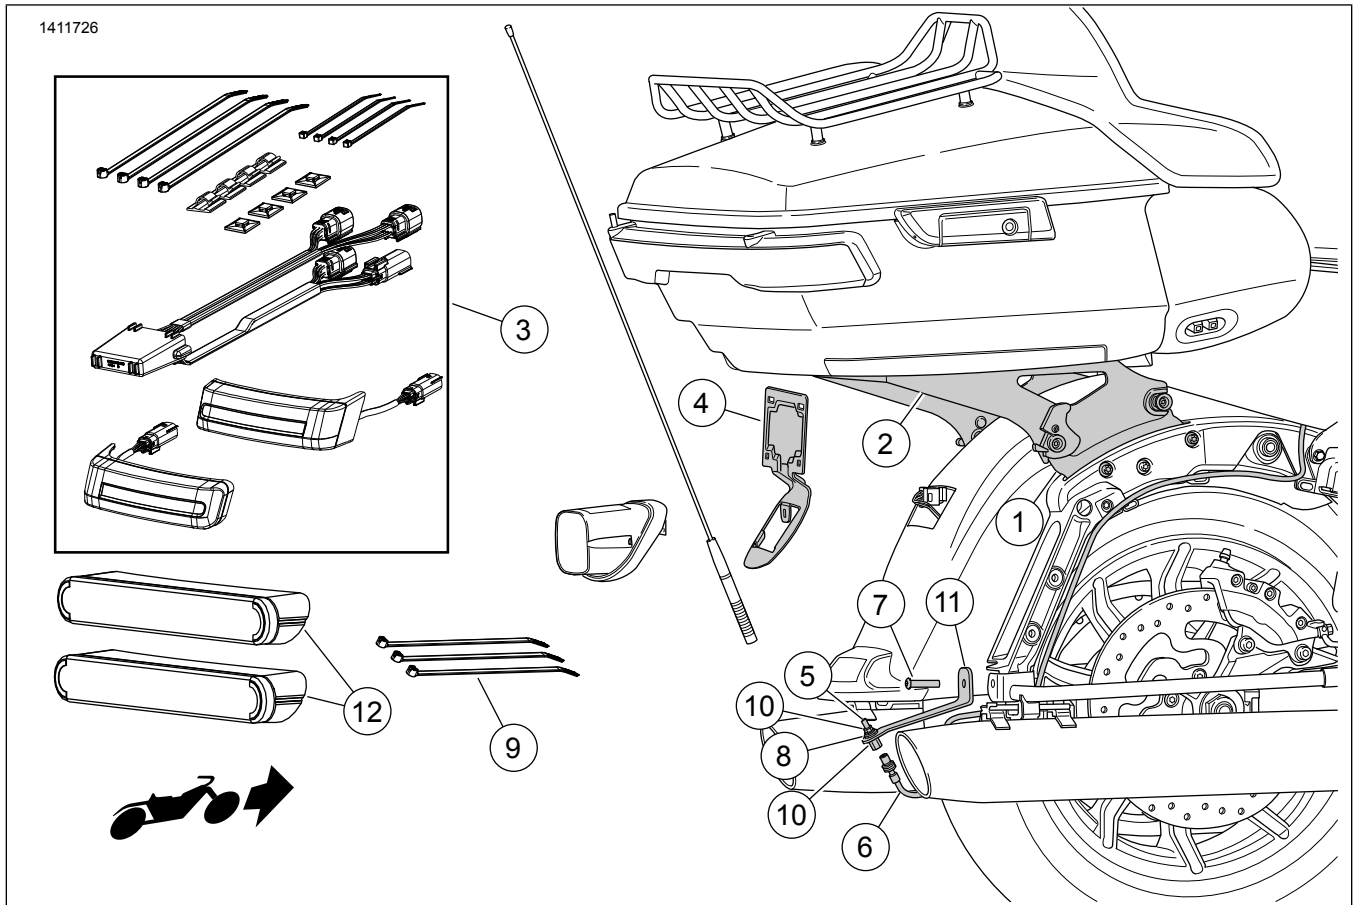
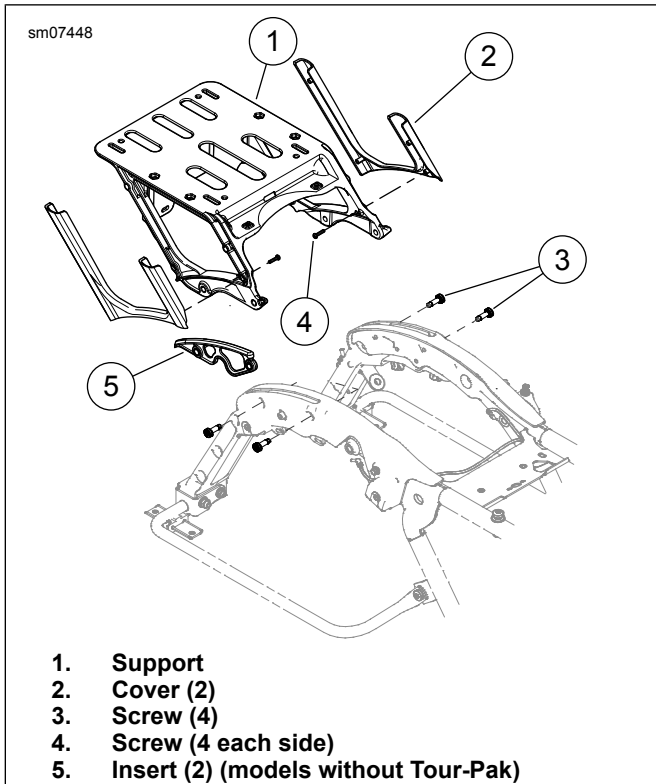
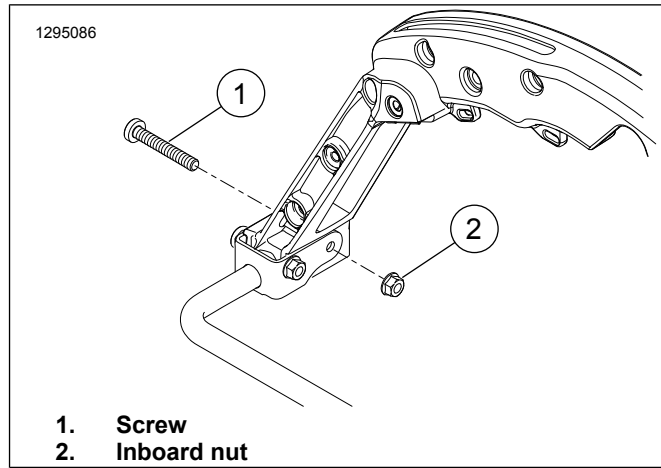
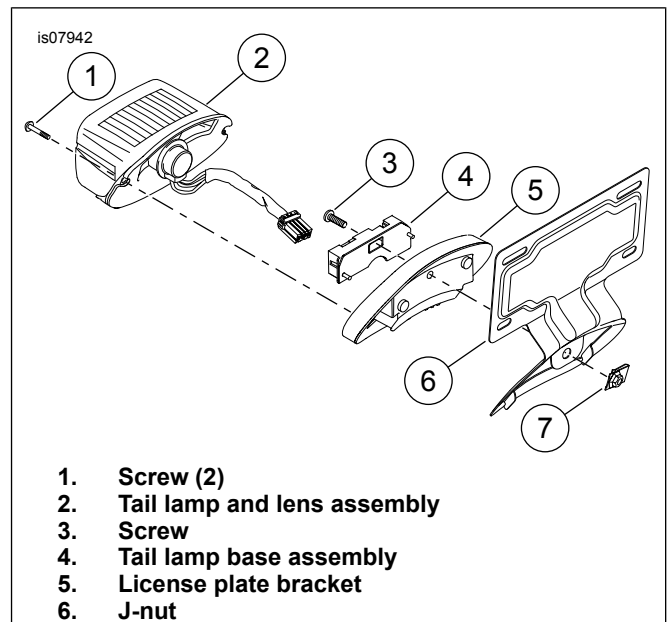

Figure 1. Kit Contents: Detachable Tour-Pak Mounting Rack
Figure 5. Tour-Pak Support
Figure 6. OE Screw Removal
Figure 7. Install License Plate Bracket
- a. See Figure 5. Remove harness connectors from anchors on support (1).
- b. Remove two screws (3) from each side.
7. See Figure 7. Remove tail lamp and tail lamp base.
- a. Remove screws (1).
- b. Disconnect and remove tail lamp and lens assembly (2).
- c. Note connector locations at tail lamp base (4) to ease installation.
- e. Remove screw (3) and tail lamp base.
9. See Figure 6. Remove right side inboard nut (2). Discard screw (1).
1. See Figure 1. Install the Docking Hardware Kit (1) per instructions in **that** kit.
2. Install LED Saddlebag Run/Brake/Turn Lamp Kit (3) per instructions in **that** kit.
3. See Figure 7. Install license plate bracket.
- a. Install license plate bracket (5) in fender.
- c. Install tail lamp base over license plate bracket. Secure with screw (3).
- e. Connect tail lamp and lens assembly to tail lamp base. Install tail lamp and lens assembly to base and secure with screws (1).
4. See Figure 5. Relocate radio antenna.
- a. Install antenna relocation bracket (2). Secure with screw (1) and previously removed nut. Tighten.
- e. Install antenna mast base (joint assembly) (6) onto antenna cable extension.
See Figure 1. Mark reflector (12) location.